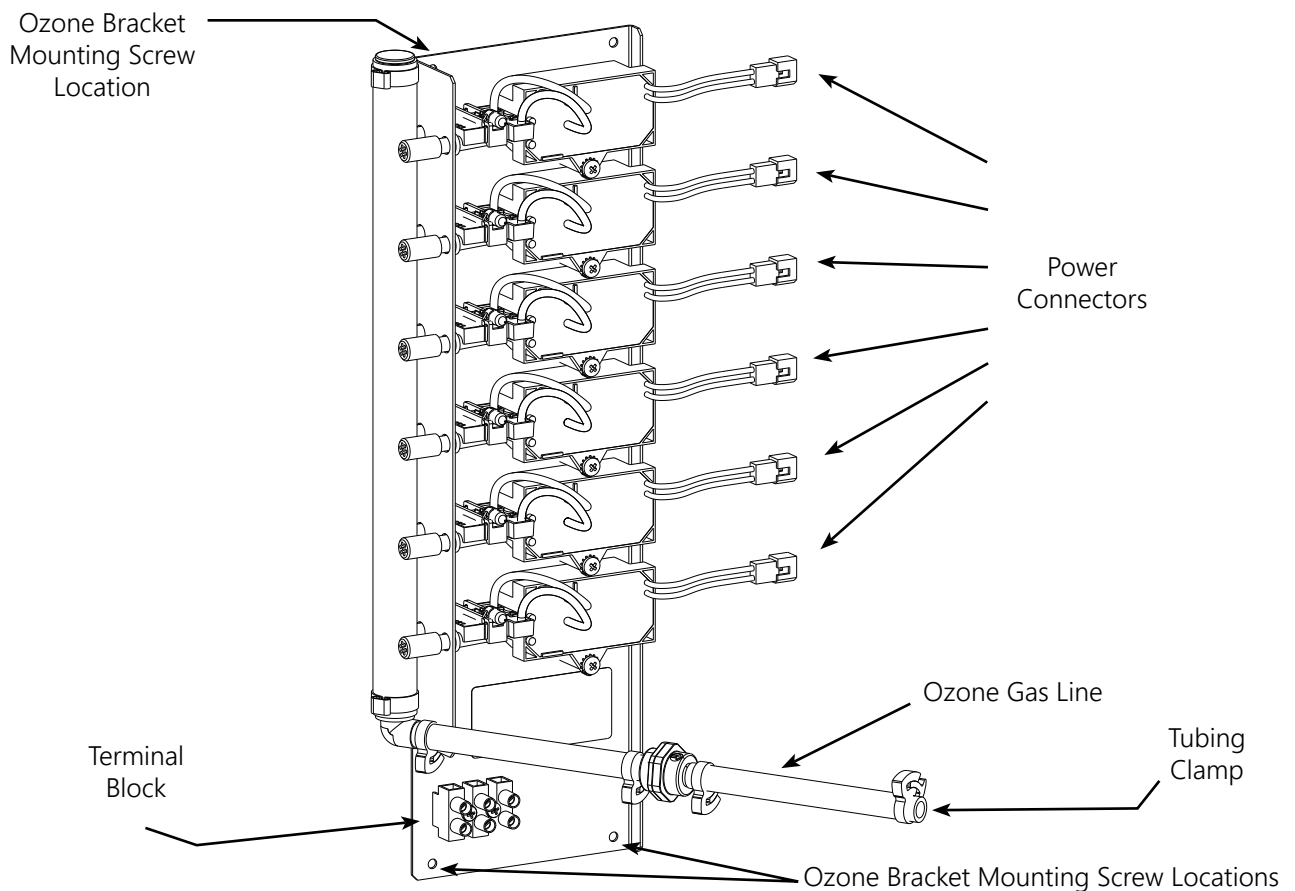

FIGURE 1: OZONE SUBASSEMBLY
- Install at least 5 feet (1.5 meters) from wall of pool. Install ozone generator no less than one (1) foot above maximum water level to prevent water from contacting electrical equipment. Install in accordance with the installation instructions.
- The DEL AOP® 50 must be installed in an outdoor location, or indoors in a forced air ventilated room, and installed so that the orientation is exactly as shown in Figure 1. Install to provide water drainage of generator to protect electrical components.